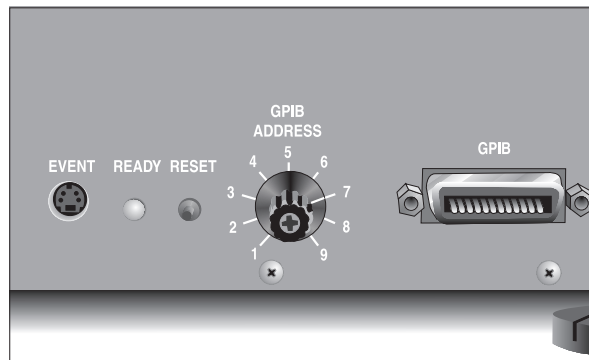

Figure 2.5
5. Select an address from 1 to 9 (one that is not used by any other instrument connected to your controller). Then use the address selector dial on the DEA connector panel to set the desired address. Figure 2.5 shows a instrument address of 7.